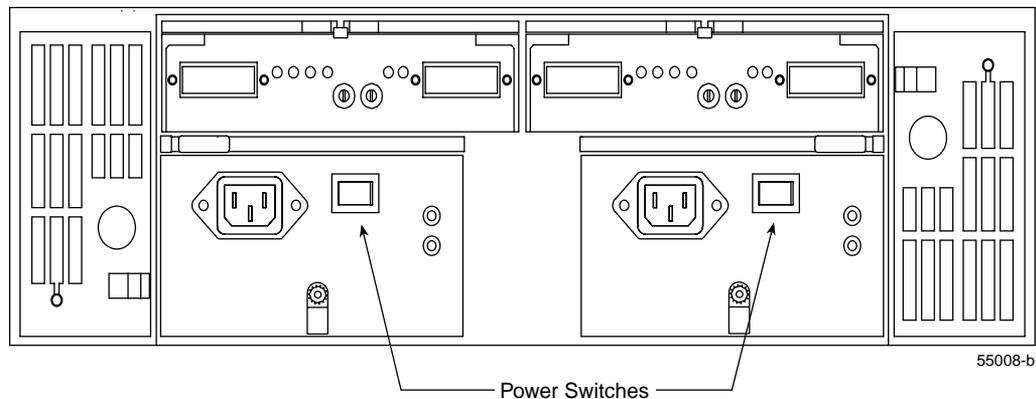

Figure 6-1 Turning the Power On and Off
- Turn on both power switches on the rear of the drive enclosure (Figure 6-1) or the main circuit breaker, whichever is applicable. You must turn on both power supply canister switches to take advantage of the redundant power supplies.
1. Turn off both power switches (Figure 6-1).
1. After the emergency situation is over or power is restored to the site, turn off all power switches (Figure 6-1).
3. Turn on the power to the drive enclosure and the controller enclosure (Figure 6-1).
4. Turn off both power switches on the rear of the drive enclosure or the main circuit breaker, whichever is applicable (Figure 6-1).